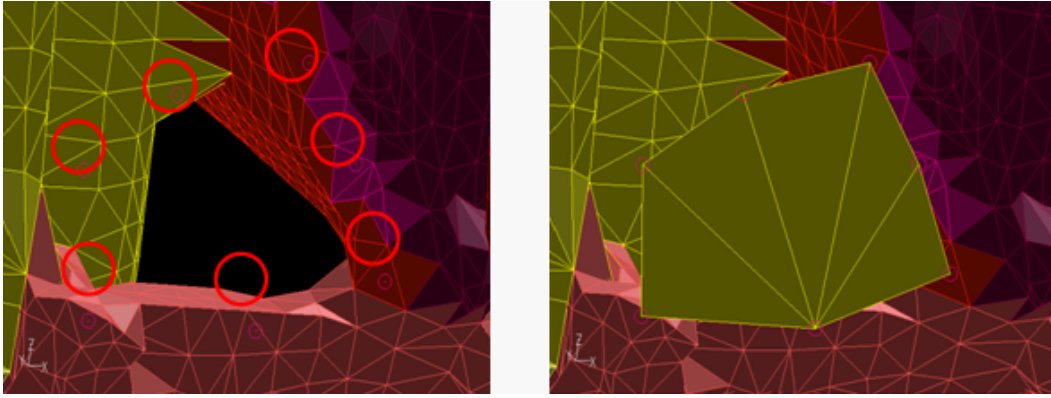

Figure 8.3.3: Hole Filling Using Positions
- Fixing holes by selecting positions (Figure 8.3.3).